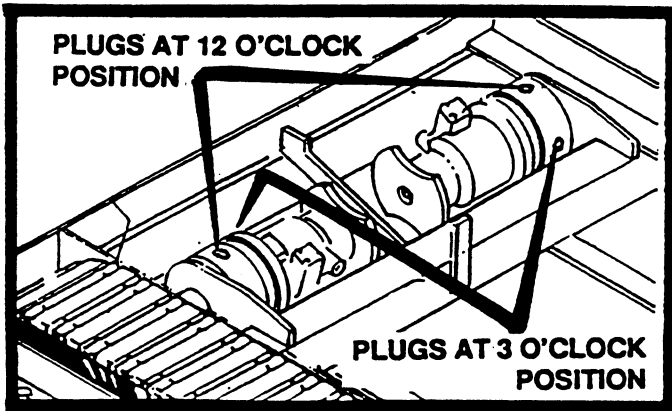

FIGURE 31
2. Check oil level in the torque hub by removing the plug at the 3 o'clock position. If oil comes out no oil is needed, insert plug and tighten. If oil does not come out, remove the plug at the 12 o'clock position and fill torque hub with **90 wt. gear oil** until oil starts to appear at the other hole. Replace both plugs and repeat process to other torque hub. See figure 31.